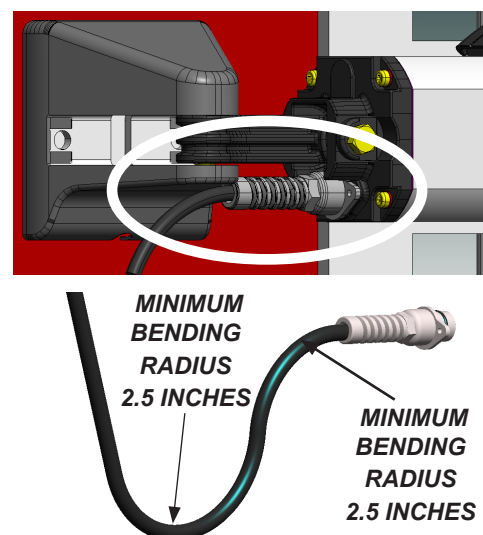

Fig. 17
18. Connect the cable to the operator using the two screws supplied, as shown in Fig. 17.